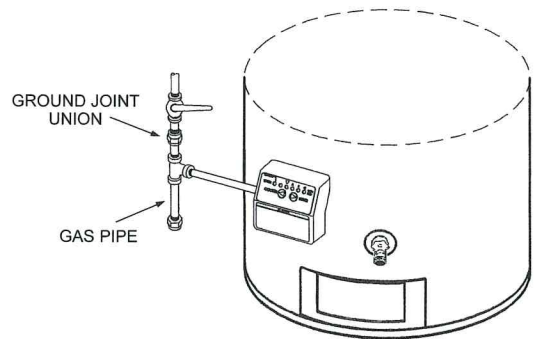

FIGURE 10.
14. Connect gas piping to the Intelli-vent™ Thermostat Control, (184960 Series) and only to the type of gas (i.e. Natural or Liquefied Petroleum/ LP gases, Propane gas) as shown on the rating plate. Use only clean 1/2 inch black iron pipe. (Dirt and scale from the pipe can enter the control and cause it to malfunction). The inlet gas line must have a drip leg (*sediment trap*) installed as close as possible to Intelli-vent™ Thermostat Control, (184960 Series) having a minimum length of three (3) inches (7.6 cm). A ground joint union must be installed in the gas supply line feeding the water heater to permit servicing, of the water heater, see Figure 10. Joints shall be made using approved gas pipe joint compound on the male pipe thread ends. Pipe joint compound must be resistant to the action of Liquefied Petroleum/ LP gases, Propane gas. Do not use Teflon Tape.